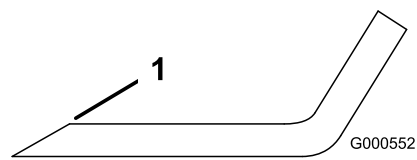
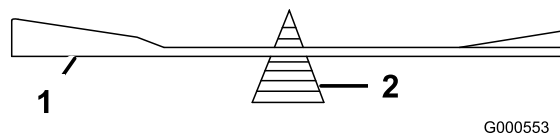

Figure 41
Figure 42
1. Use a file to sharpen the cutting edge at both ends of the blade (Figure 41). Maintain the original angle. The blade retains its balance if the same amount of material is removed from both cutting edges.
2. Check the balance of the blade by putting it on a blade balancer (Figure 42). If the blade stays in a horizontal position, the blade is balanced and can be used. If the blade is not balanced, file some metal off the end of the sail area only (Figure 41). Repeat this procedure until the blade is balanced.